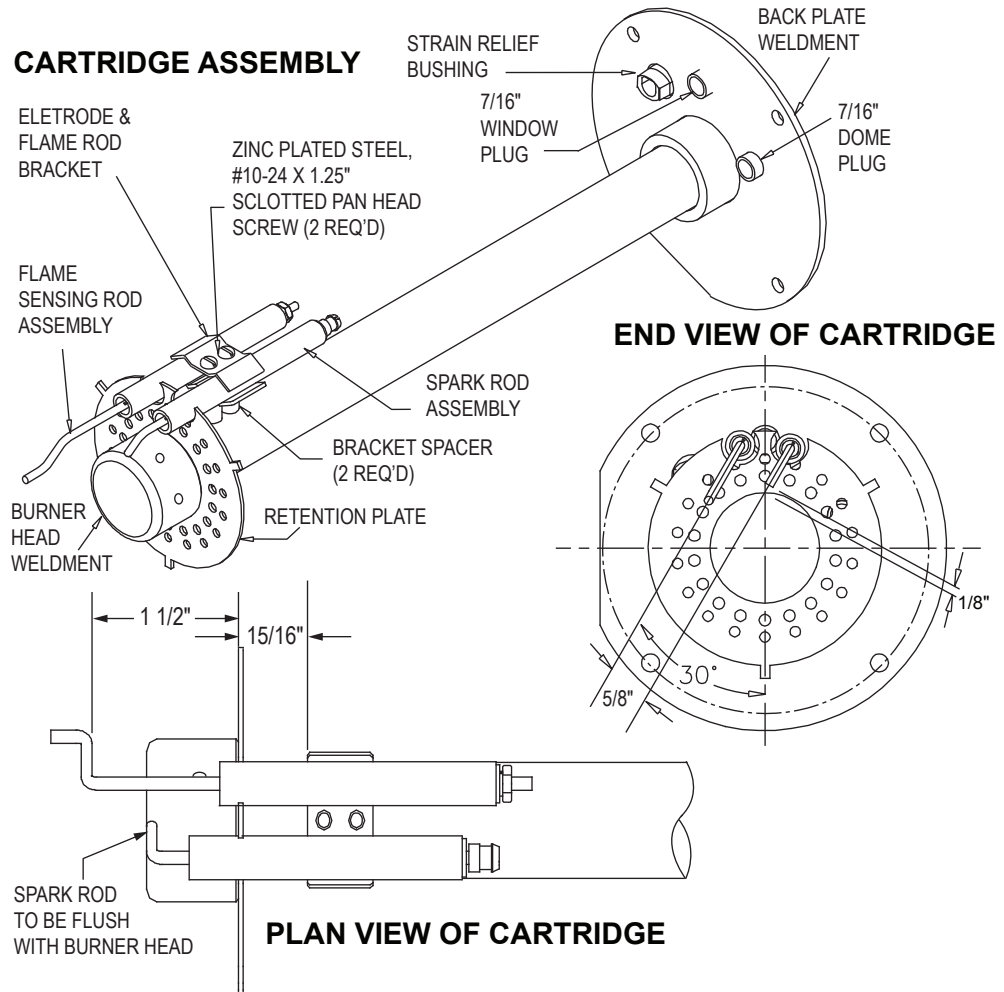

Figure 3 -
- The flame sensing rod must be positioned as shown in Figure 3 so that the Electronic Control will detect a proper flame.